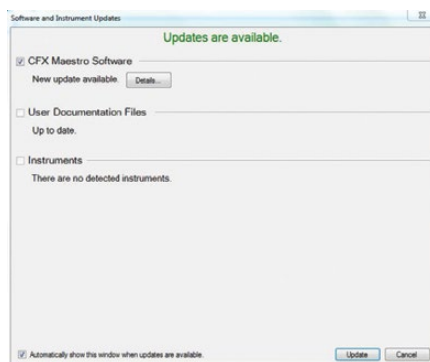

Fig. 8. Update dialog box.
2. If an update is available, a dialog box will prompt you to update the software and instrument. Click **Update** (Figure 8).